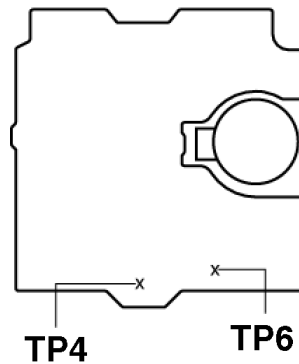
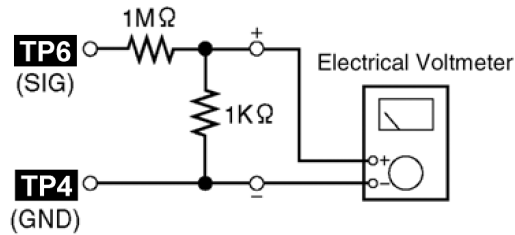

Fig. 9
Fig. 12
1. Connect an electrical voltmeter. (Fig. 12) (Refer to Fig. 9 for location of test points)